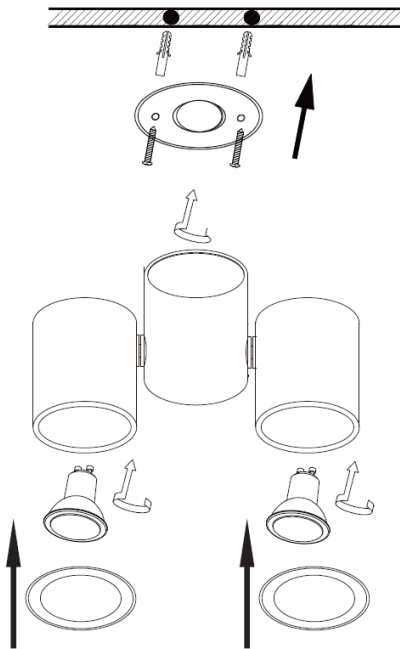

Fig. 1
- Using the baseplate as a template, mark the location for, and drill the fixing holes ensuring not to infringe with any gas/water pipes or electrical cables (see Fig. 1)
- Remove the inner bezel by pulling it down and insert a suitable LED GU10 lamp (see Fig. 1)